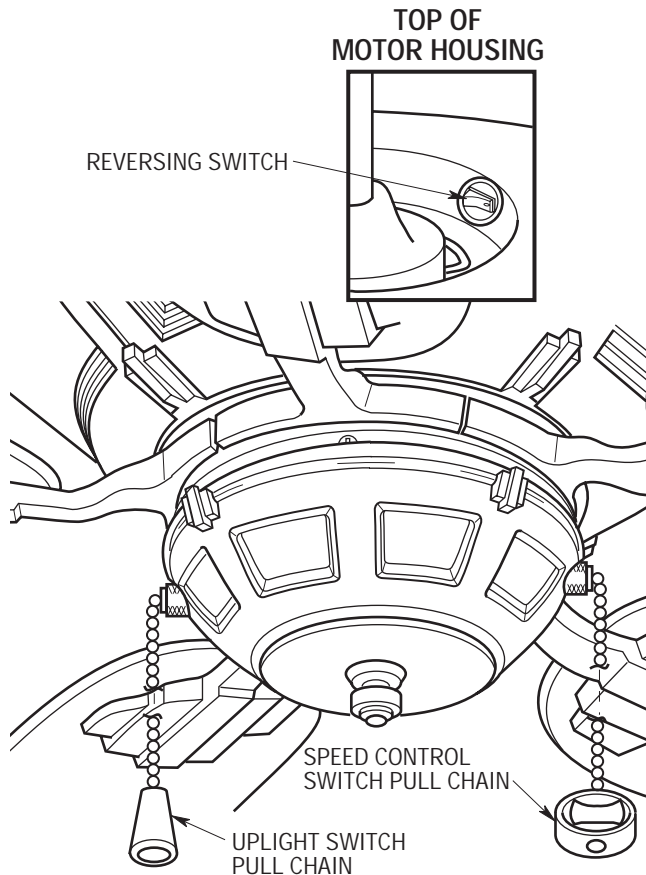

Figure 16
3. If airflow is desired in opposite direction, turn your fan off and wait for the blades to stop turning, then press the rocker switch located on top of the motor housing, and turn the fan on again (Figure 16). The fan blades will turn in the opposite direction and reverse airflow.